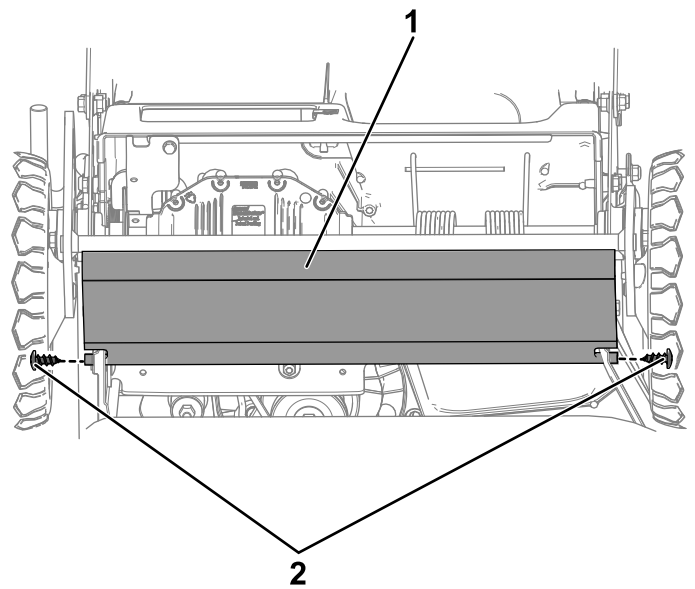

Figure 46
9. Remove the trailing shield by removing the 2 bolts holding it in place (Figure 46).